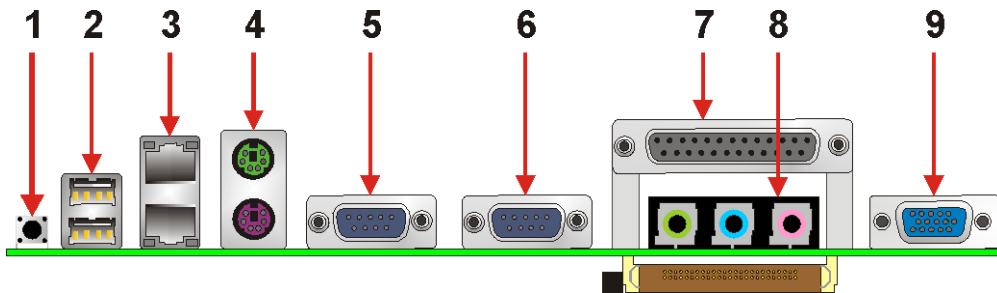

Figure 3-23: POS-6614 Motherboard External Peripheral Connector Panel
Figure 3-23 shows the POS-6614 Motherboard external peripheral connector panel. The peripheral connectors on the panel can be connected to devices externally when the motherboard is installed in a chassis. The external peripheral connectors are:
- CN Location:** See Figure 3-23 (labeled 1)
- CN Location:** See Figure 3-23 (labeled 2)
- CN Location:** See Figure 3-23 (labeled 3)
**CN Location:** See Figure 3-23 (labeled 4)
- CN Location:** See Figure 3-23 (labeled 5 and 6)